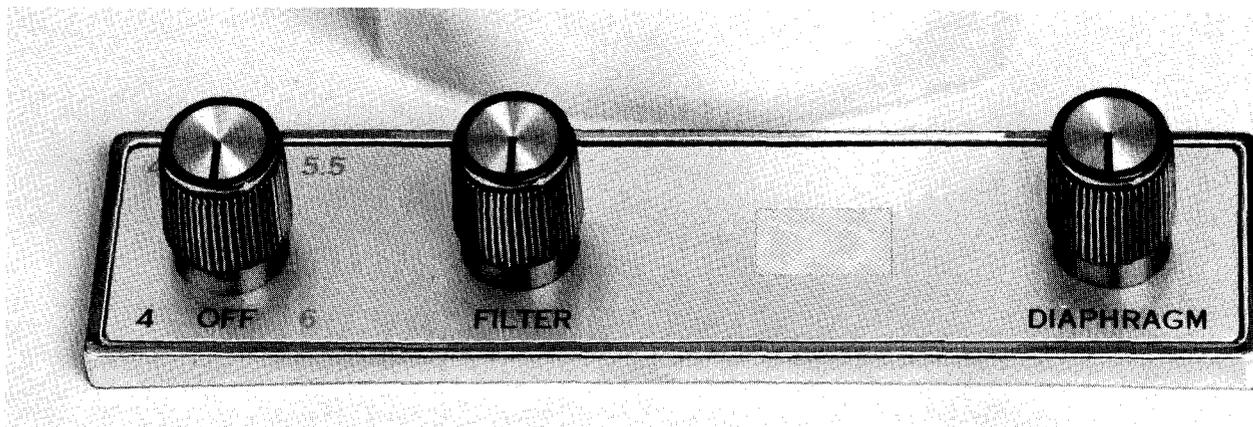

Figure 21. Controls for Tungsten Halogen Illuminator 1130A
1. Cat. No. 1130A (Figure 21). This Illuminator contains a high intensity 6V, 20W Tungsten Halogen lamp (Cat. No. 1120) that provides uniform intensity throughout its life at a consistent desirable color temperature of 3200°K (at 6V setting). This, coupled with a built-in iris field diaphragm, makes the 1130A Illuminator ideal for advanced laboratory work, darkfield, phase contrast, photomicrography and viewing screen use. Built-in continuously variable transformer allows exact adjustment of intensity levels for all situations. Swing-in neutral density filter conveniently controlled by external knob eliminates need for loose density filters. A dual viewing receptacle for #1111 or #1112 Dual Viewing Adapters or #1115 Multi-Viewing Adapter is incorporated in the base. The well corrected, pre-focused optical system of the 1130A Illuminator allows full and even illumination of all fields of view. Satisfies Koehler-type illumination requirements.
- H. While viewing through the microscope, partially close the field diaphragm (Figure 21) so that the iris diaphragm leaves are imaged within the field of view. The leaves should be in sharp